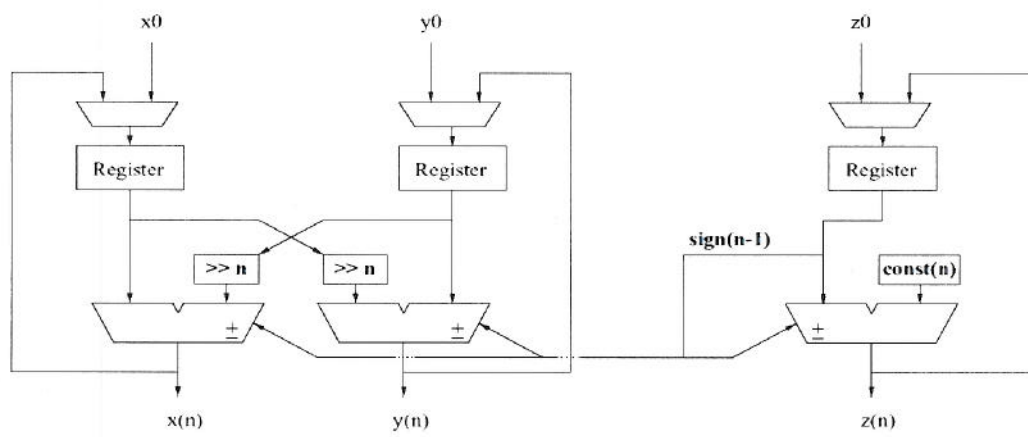

Figure 1.1 CORDIC architecture
1. a) Figure 1.1 shows the bit-parallel iterative implementation of a CORDIC processor. Hence or otherwise, derive the iterative equations of the rotation mode CORDIC algorithm as implemented by the circuit shown.
- d) State with justification how many CORDIC iterations are required to evaluate $\cos(a)$, where $a = 18.4350^\circ$. Assuming the architecture of Figure 1.1, how many clock cycles are required for the above evaluation? The elementary angles used in the CORDIC implementation are illustrated in Table 1.